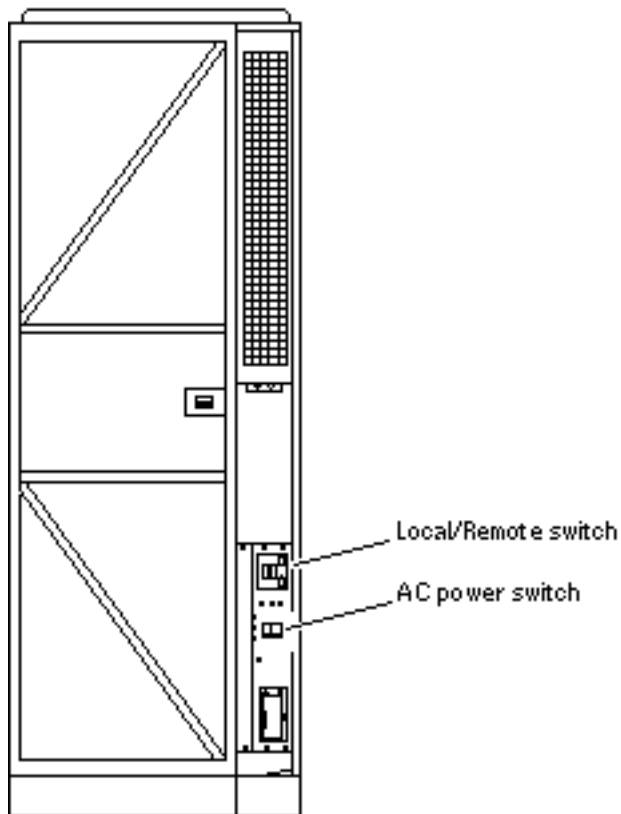

Figure 3-2 Switches on the AC Power Sequencer
b. Turn the AC power sequencer power switch (Figure 3-2) to Off.
4. Set the system cabinet Local/Remote switch (Figure 3-2) to Local.
5. Turn the AC power switch (Figure 3-2) to On.